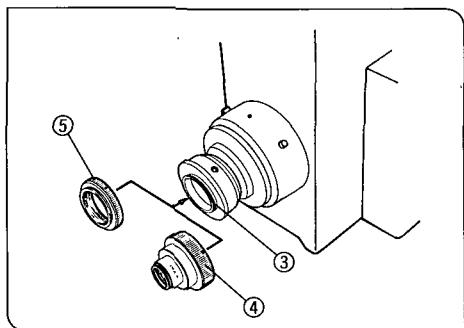

Fig. 114
2. The rear section of the adapter is provided with a thread ③ for mounting a T-mount. Firmly screw a C/T-mount adapter (U-CMT) ④ or an F/T-mount adapter (U-FMT) onto the tread. (Fig. 114)